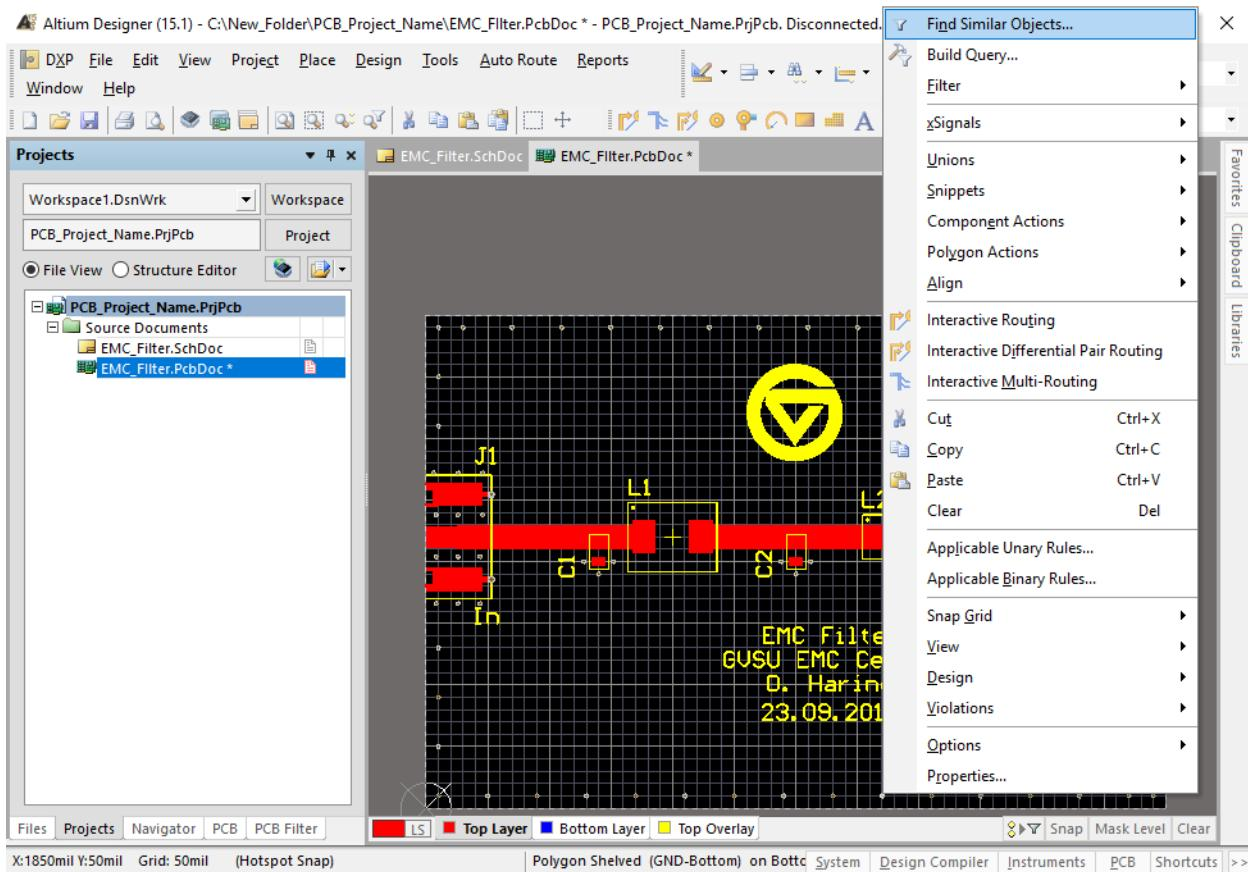

Figure 95: Altium PCB GND Placed vias around the edge, and Find Similar Objects...
54. To avoid single double click on each via and change the net use the Find similar objects tool in combination with the **PCB Inspector** view. The **Find Similar Object** tool is used by selecting a via with no net then right click on it and select Find Similar Object as shown in Figure 95. The Find Similar Objects dialog will appear where you see that the object kind is via, the Net is No Net, and we search for all objects that are via and have no net that's why both lines have instead of selected Any, selected Same. To search you have to press first the button Apply and then OK to close the dialog. To the left in the same figure you see the PCB Inspector view which can be found if not opened to the left bottom by clicking on the highlighted PCB. In the PCB Inspector you can now change once the net from No Net to GND for all selected objects. Now you have to repour the polygons both bottom and top to connect the vias to the GND net. This can be done by **right click on the board chose Polygon Actions and chose Repour All**.